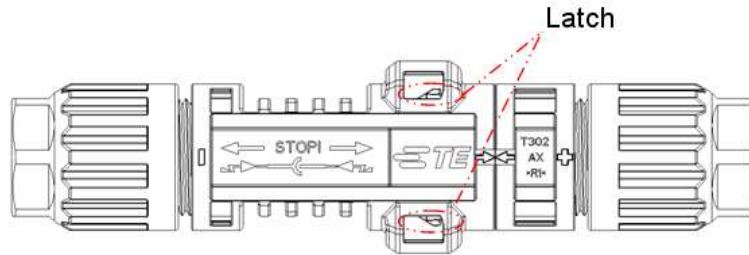

Figure 10
- ♦ Mating of the connectors is done by pushing the connectors together until a clear audible click is heard. This clear audible clicking sound must be heard to ensure the connectors have been mated correctly. When the connectors are correctly connected the latches should be flush against the edge of the connector (see **Figure 10**).